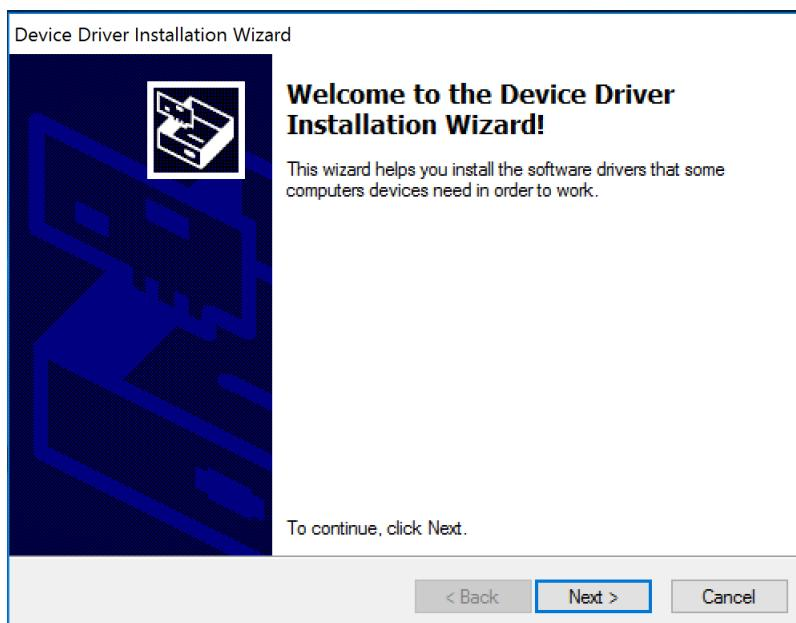

Figure 28. HSDC Pro Install (Continue Installation)
8. Click *Finish* to continue installation, as shown in Figure 28.